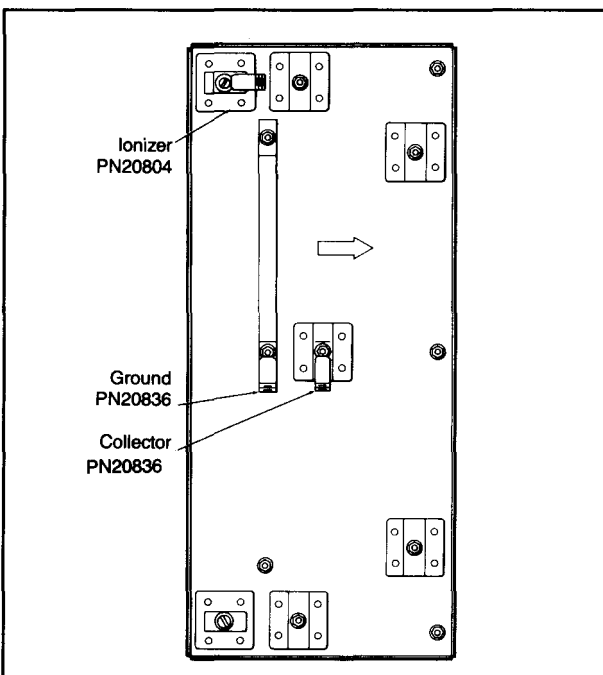

FIGURE 30 - Cell insulators and contacts
- Using a voltmeter, measure the voltage from the collector contact to ground. See Figure 30.
- Using a voltmeter, measure the voltage from the ionizer contact to ground. See Figure 30.
- Turn the electronic air cleaner OFF, and release the interlock safety switch. Bleed the electronic cells by placing a screwdriver across the ionizer contact to ground and the collector contact to ground. See Figure 30.
- Remove dirt accumulated on the insulators and on the ionizer and collector contact tabs. See Figure 30.